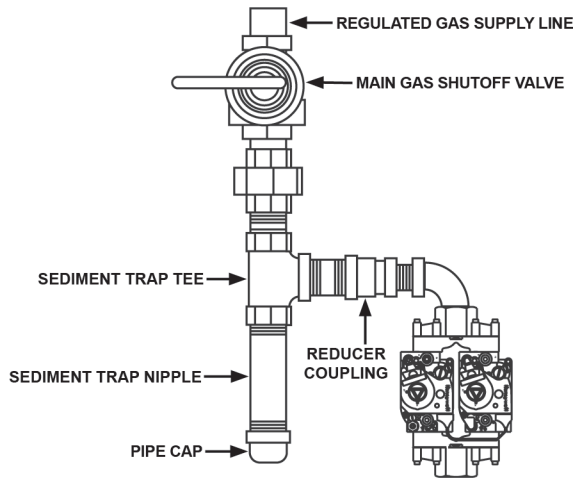

Figure 18. Gas Piping and Sediment Trap Installation
To trap any dirt or foreign material in the gas supply line, a sediment trap must be incorporated in the piping. See *Figure 18* (page 23). The sediment trap must be readily accessible and not subject to freezing conditions. Install in accordance with recommendations of serving gas suppliers. Refer to the current editions of the *National Fuel Gas Code* or *B149.1 Natural Gas and Propane* installation code.
1. For test pressures exceeding 1/2 psi (3.45 kPa) disconnect the water heater and its Main Gas Shutoff Valve from the gas supply piping system during testing. See **Figure 18**. The gas supply line must be capped when disconnected from the water heater.
1. Close the Main Gas Shutoff Valve. See *Figure 18* (page 23).
3. Close the Main Gas Shut Off Valve. See *Figure 18* (page 23).
4. Wait five (5) minutes for any residual gas to clear.